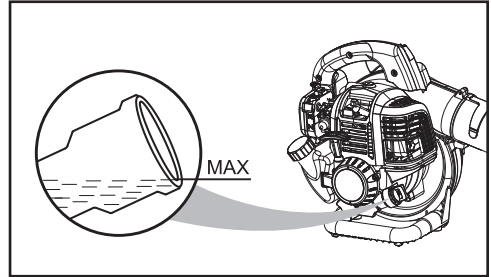

Fig. 3
4. If level is low, add engine lubricant until the fluid level rises to the top of oil fill hole (the top of screw thread) and does not overflow, Fig.3.